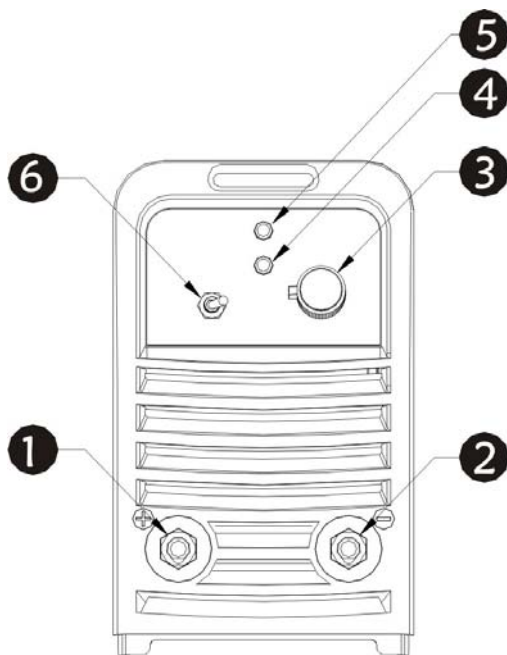

Figure 1
• Front control panel (see Figure 1)